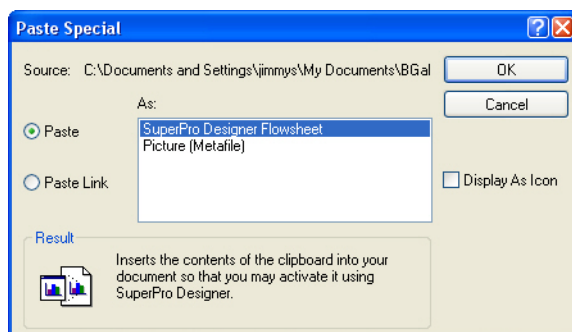

Figure 14.1: The 'Paste Special' dialog.
- b) Select **Paste Special**. The dialog shown in Figure 14.1 will appear (actual contents of the list in your environment may be different). Notice that you have two decisions to make in this dialog. The first decision refers to the nature of the pasted object as it will continue